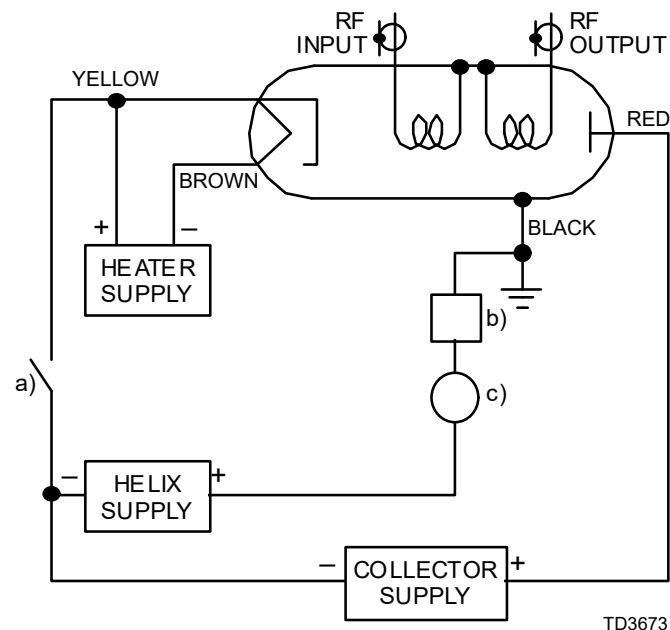

FIGURE 1.
Heater Voltage — Either an ac or dc heater supply may be used unless otherwise specified on the Test Performance Sheet. In some cases, an ac heater voltage will damage the device. If an ac heater supply is used, there is no limitation on the frequency of the voltage. However, for minimum heater modulation, a direct-current heater supply may be used. If a dc heater supply is used, the yellow lead *must* connect to the positive side of the heater supply (see Figure 1). Product life will be greatly reduced if the heater polarity is reversed. Moreover, heater surge current should *never* exceed approximately two and one-half times the steady-state value.
Helix (Body) Current — An overcurrent relay (as depicted in Figure 1) should be part of the power supply and should remove the helix voltage (sometimes referred to as beam or cathode voltage) in a fraction of a second if the TWT body current exceeds the specified value. The relay trip level
Application of Voltages — Recommended operating voltages and currents are given on the product nameplate and are to be applied in the following sequence (see Figure 1):
2. **Anode Voltage.** Some of these device types have a control anode lead (blue). The anode would appear between the cathode and the helix (reference Figure 1). When the anode is at cathode potential, there is essentially no beam current flowing. When the anode is at helix (ground) potential, the device is in the "on" condition with full beam current flowing.
One method of operation for device types equipped with an anode connection is to permanently connect the anode to ground (reference Figure 1). Another method requires moving the optional high-voltage vacuum relay to the anode circuit and incorporating it into the on-off logic. Furthermore, the anode voltage may be made adjustable and used to control the beam current to any value between full off and full on. This approach can be used to control gain or power output; however, the gain change is much more rapid at the high end of the band than the low end of the band. Therefore, this type of control is not useful for most broadband applications.
5. **Rise and Fall Time Requirements.** If the optional high-voltage vacuum relay shown in Figure 1 is used, there are no constraints on the rise and fall times of the helix and collector supplies. It is only necessary to ensure that the relay cannot be closed until both supplies reach steady-state values and that the helix overcurrent sensor is capable of quickly opening the vacuum relay in case of overcurrent. However, it should be noted that this “off” condition does not ensure the absence of lethal voltages. Additional provisions must be made to turn off and discharge the helix and collector supplies before operating or service personnel can come in contact with the high-voltage connections on the device.